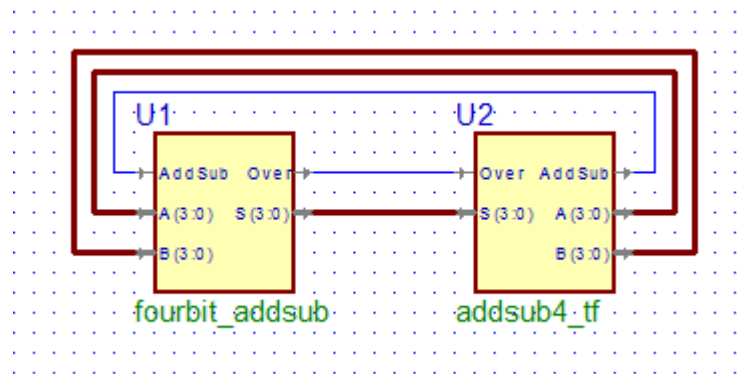

Figure 10
1. Once you have finished connecting the test fixture block symbol to your design’s block symbol, save, run the check diagram tool, and compile the new schematic. Your schematic should look like Figure 10 below.